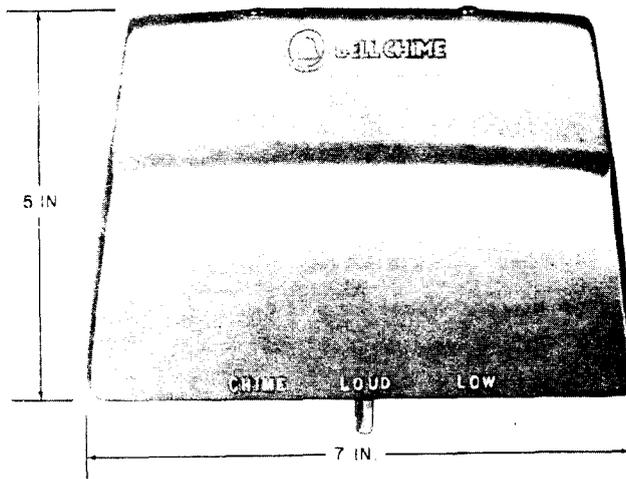

Fig. 1—F1A Ringer with 125A Cover in Place
1.01 This section contains identification, installation, maintenance, and connection information for the BELL CHIME ringer (Fig. 1 and 2).